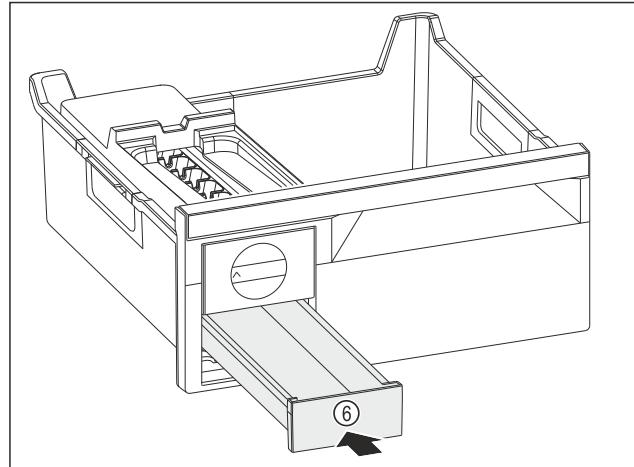

Fig. 129
- Insert the ice cube drawer Fig. 129 (6).